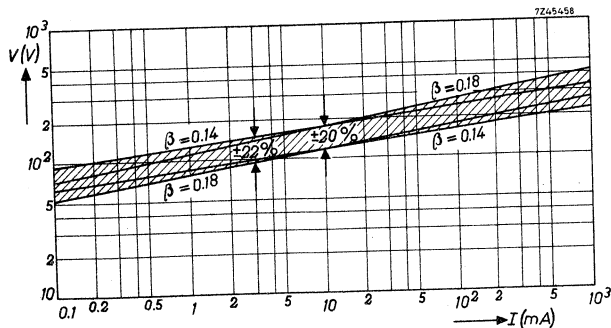

Fig. 10 Spread of voltage/current characteristic due to β -tolerance.
According to Eq. (1) it is possible to specify the electrical characteristics of a VDR resistor by giving its C and β -values. The advantage of this specification is that only two parameters are used. The disadvantage is, however, that due to the inevitable tolerances on the β -values, the spread in voltages at low currents (in the working area) becomes very large. It is for this reason that the method of specifying by the C -value defined at 1 A is abandoned and we now specify the voltage across the VDR at currents which lie in the working area (1, 10 or 100 mA instead of 1 A). In this way it is possible to supply VDRs which have much closer tolerances in the area where they are used, see Fig. 10.
Standard VDRs are specified with a certain tolerance on voltage and a spread on β -value. It can be seen in Fig. 10 that due to the spread in β -value the tolerance on voltage may increase at currents other than the specified current at which the VDR is measured.